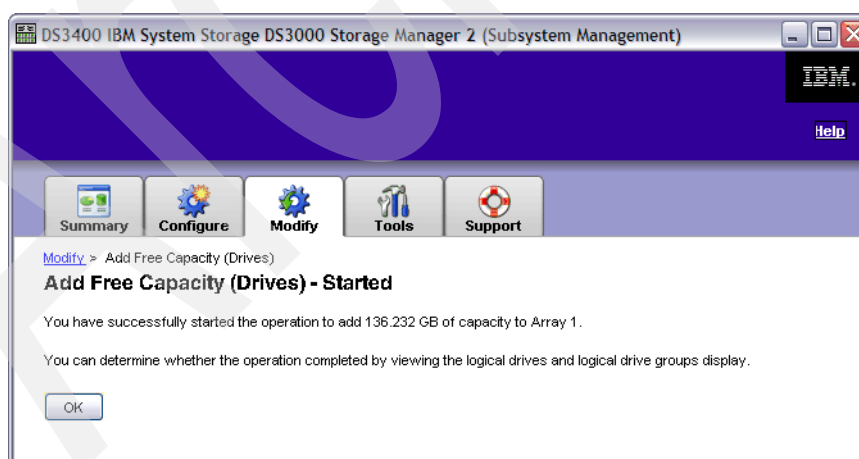

Figure 11-23 Add Free Capacity (Drives) - Started
4. From the drop-down menu, select how many drives you want to add to this array. You must add two drives for a RAID 1 or RAID 10 array. For other types of RAID, you can select one or two drives in one step. If you need to add more than two disk drives, you have to wait while the first two drives are added successfully (it can take hours) and then you can add more drives. Click **Finish** to expand the array (Figure 11-23). Your operation will only take few minutes to complete, but the background procedure of adding disk drive(s) can take hours to complete and you cannot cancel it after it starts. However, existing data on the array remains accessible. Click **OK** to return to the Modify tab.